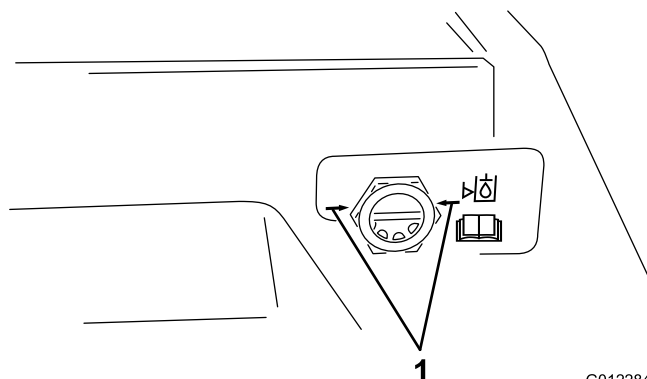

Figure 43
5. With cutting units up and oil warm, look into the sight glass (Figure 43). If the hydraulic fluid is not even with the arrows, add enough fluid to raise it to the proper level. **Do not fill full if the fluid is cold.**
6. Look into sight glass (Figure 43). The hydraulic oil level should be even with arrows when oil is warm. If level is low, add hydraulic oil to the reservoir.